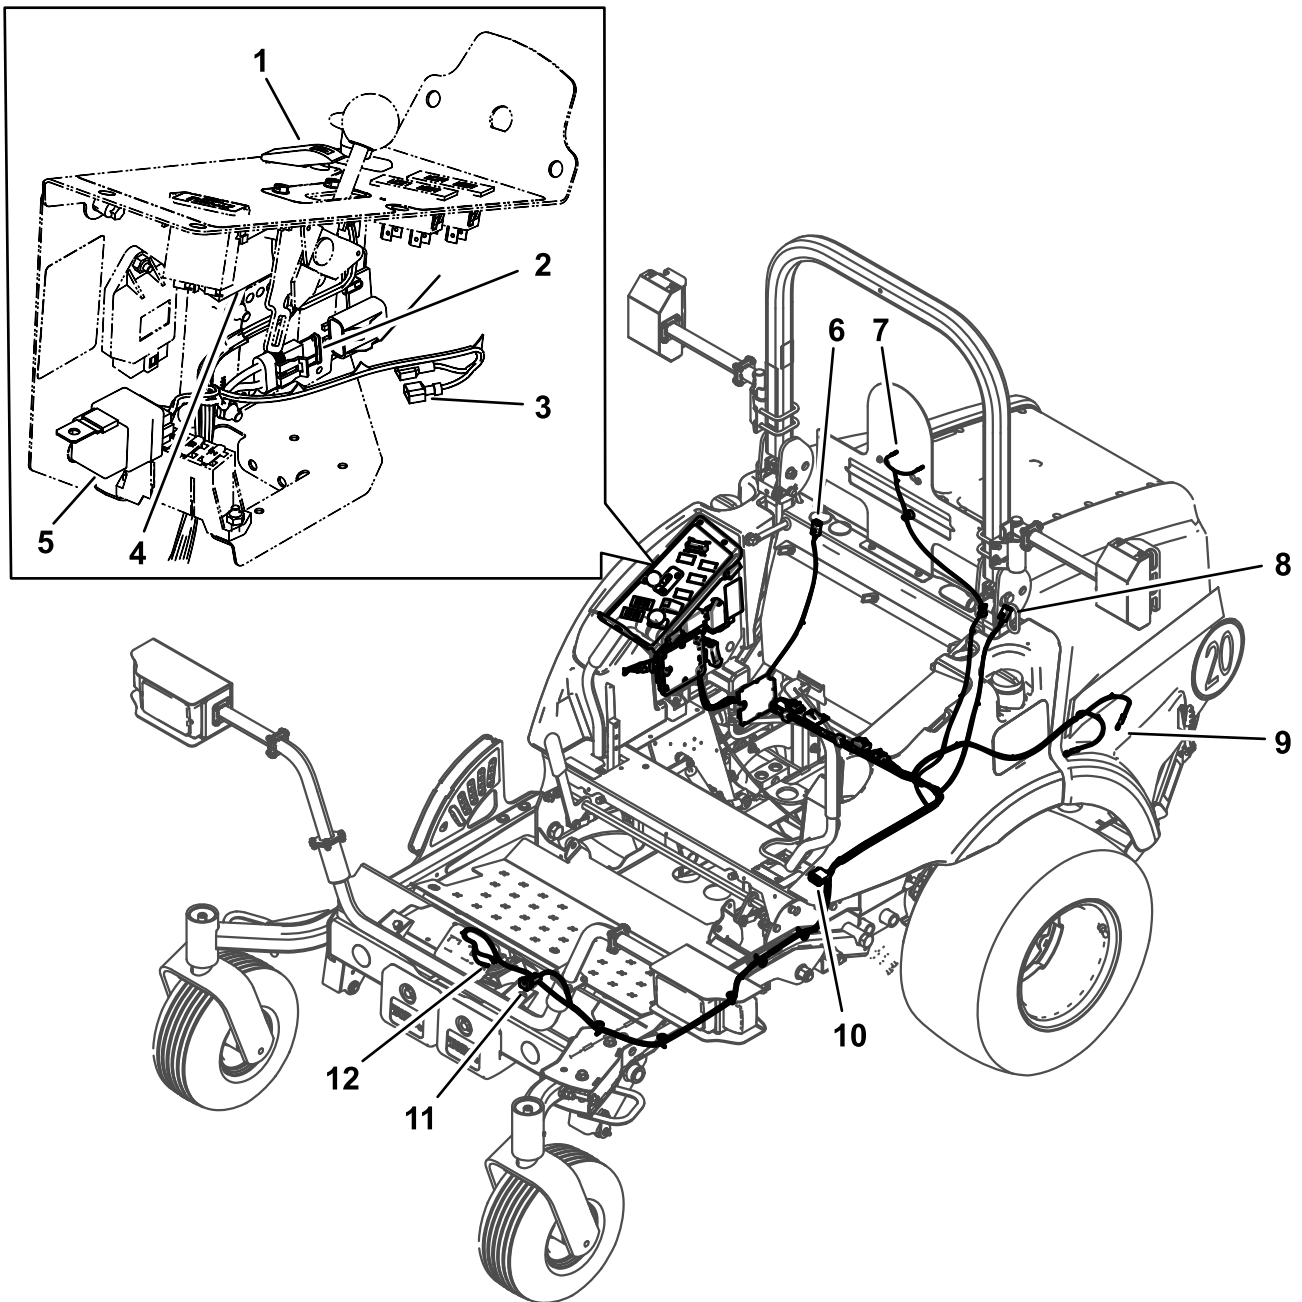

Figure 15
Note: Use only 1 of the blade connectors shown in Figure 15.
3. Use Figure 15 to route the wiring harness into the machine.